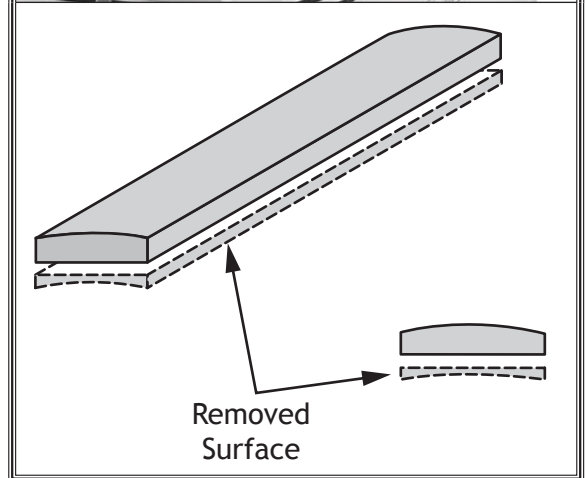

Figure 19. Example of a typical surface planing operation.
The purpose of surface planing (see **Figure 19**) on the jointer is to make one flat face on a piece of stock to prepare it for thickness planing on a planer.
5. Place workpiece firmly against fence and infeed table with concave side facing down, as shown in **Figure 19**.